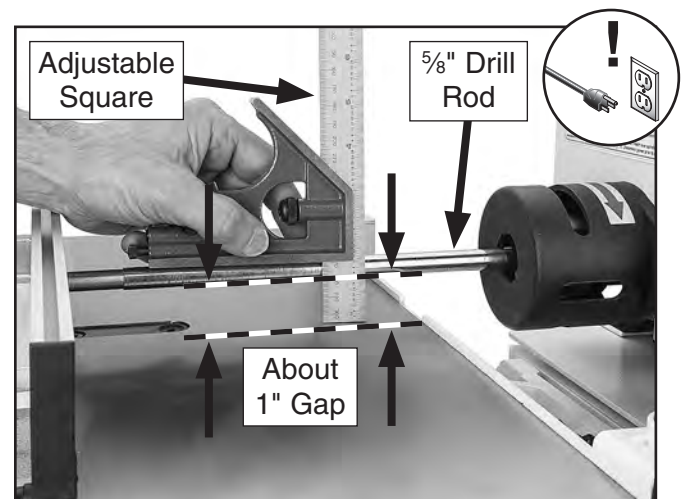

Figure 42. Checking table-chuck axis parallelism.
5. Raise table until there is approximately 1" gap between table surface and bottom of drill rod (see **Figure 42**), then tighten table lock.
6. Set adjustable square against drill rod and table at chuck end, as shown in **Figure 42**, then tighten square to secure measurement.